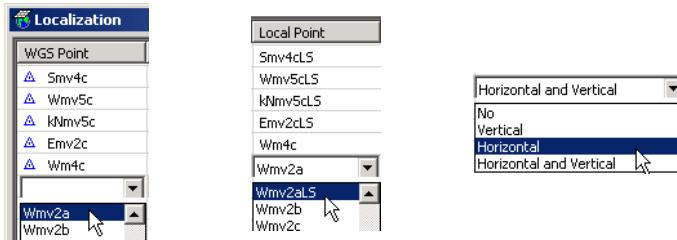

Figure E-34. Localize Point
4. Select the point ‘Wmv2a’ from the drop-down list in *WGS Point* column (Figure E-34).
5. Select the point ‘Wmv2aLS’ from the drop-down list in *Local Point* column (Figure E-34).
6. Since this point will be used only in horizontal localization, select ‘Horizontal’ to change the point’s status (Figure E-34).